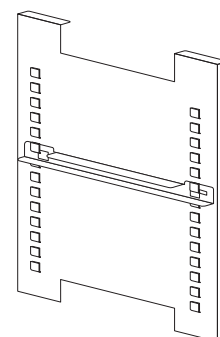

Figure 1-12. Channel Installed
3. Figure 1-12 shows one of the channels installed on the right side duct.